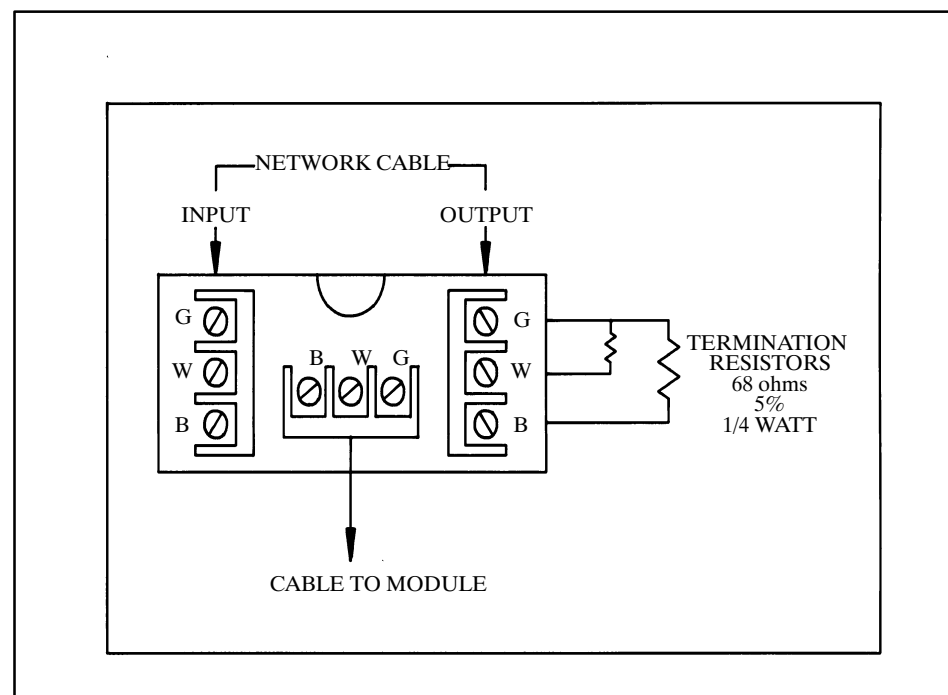

Figure 2-6 Terminating the Local Line
1. The factory-installed termination resistors in the tap housing (see Figure 2-6) are left in place in the tap housing which is to be used to terminate the Local Line.